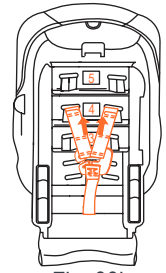

Fig. 38b
1. Loosen harness, unfasten harness end loops from splitter plate. Pull harness end loops through seatback. Thread harness end loops through desired shoulder slot position (Fig. 38b).